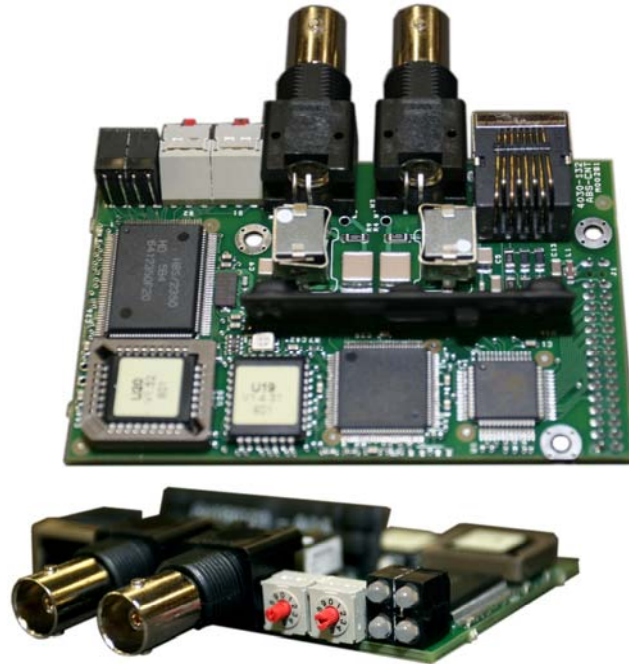
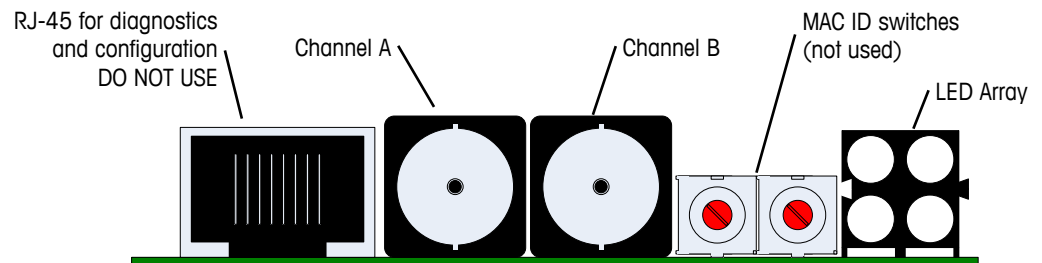

Figure 3-1: ControlNet PLC Module
Figure 3-2: ControlNet PLC Module Components
The ControlNet Kit option enables the IND780 terminal to communicate to ControlNet Programmable Logic Controllers (PLCs) through direct connection to the ControlNet network. The kit consists of a backplane-compatible I/O module and software that resides in the IND780 terminal to implement the data exchange. Figure 3-1 shows two views of the module, and Figure 3-2 points out its components.
- Do **not** plug an EtherNet cable into the RJ-45 connector shown at left in Figure 3-2. It is for diagnostic use only.